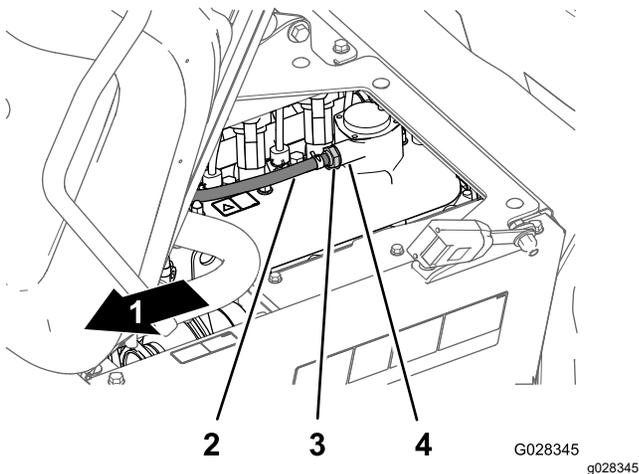

Figure 78
2. Remove the PCV valve from the fitting of the valve cover (Figure 78).
Note: If the internal restrictor of the valve rattles, the PCV valve is serviceable; if the internal restrictor is not free to rattle when shaken, replace the PCV valve (Figure 78).
4. Insert the PCV valve until it is fully seated in the seal for the valve-cover fitting (Figure 78).